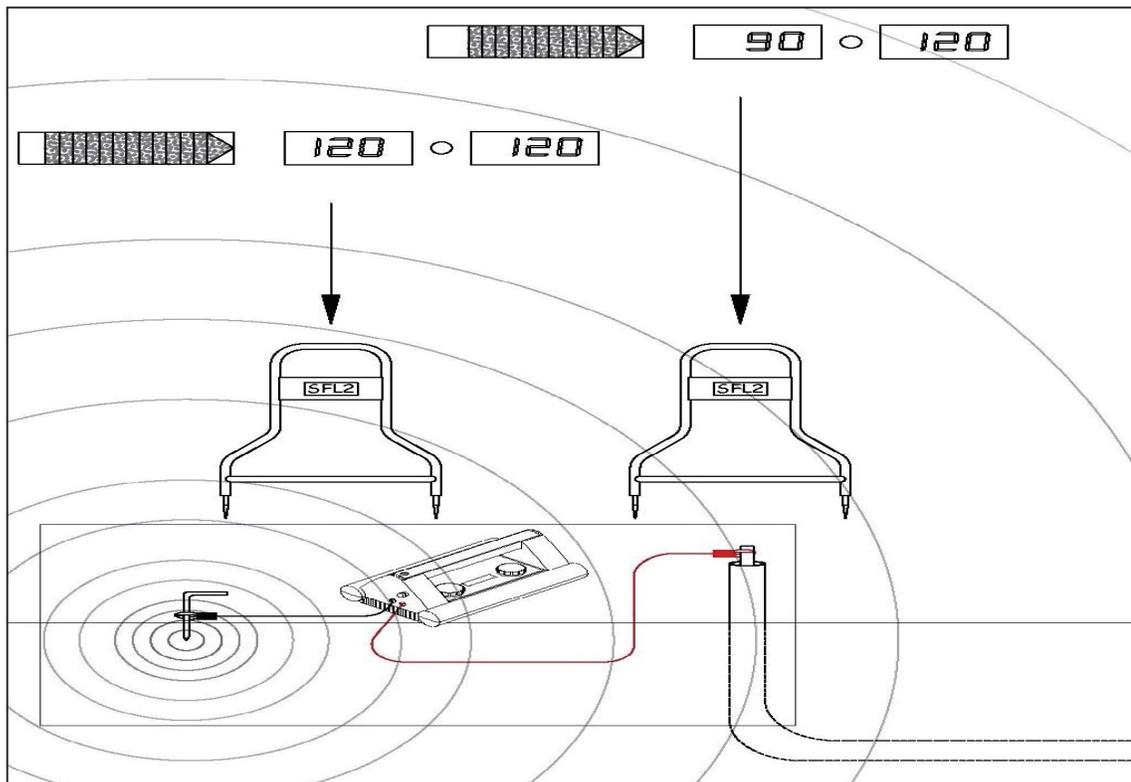

Figure 7-1: Synchronizing The A-frame
- 5 If the arrow points towards the ground spike, there is not fault, or grounds and connections need to be rechecked. See **Figure 7-1**.